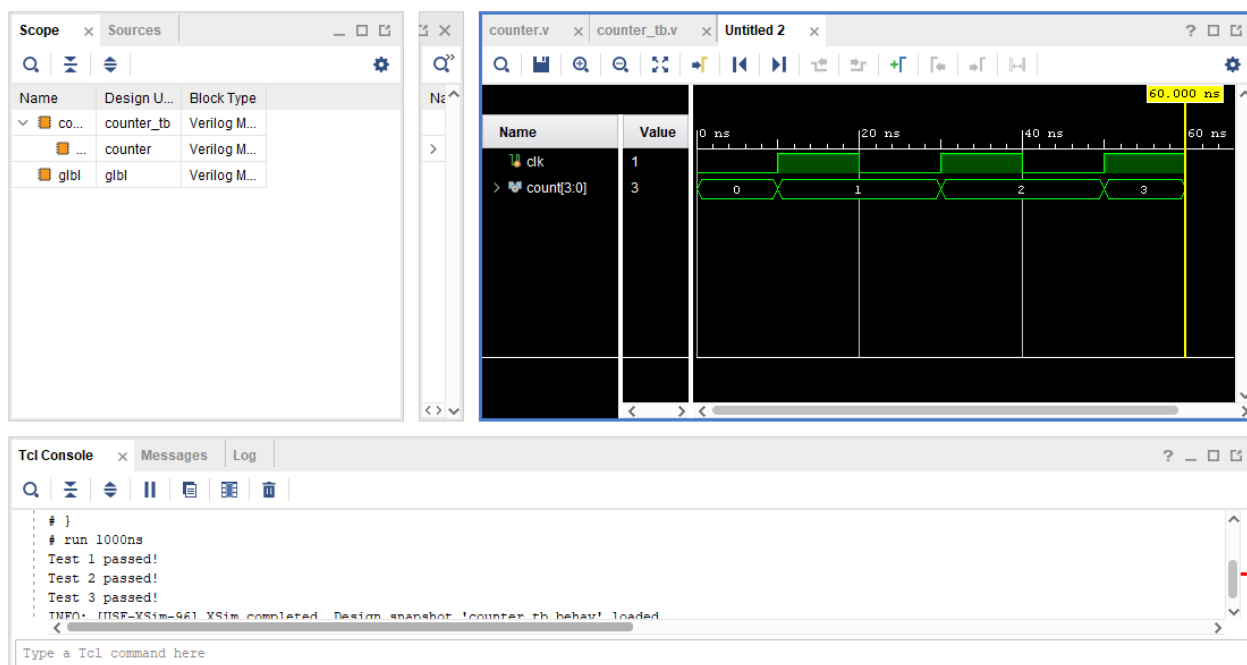

Figure 5: Simulation Waveform for Counter Module
- (d) The waveform panel shown in Figure 5 will open once your design successfully compiles. Take note of the waveform panel in the top-right corner and the console panel at the bottom. For this simulation, the waveform will be very simple. You may have to zoom in to see the values. Check the Tcl console output at the bottom of the screen to ensure that your design passes all of these tests.